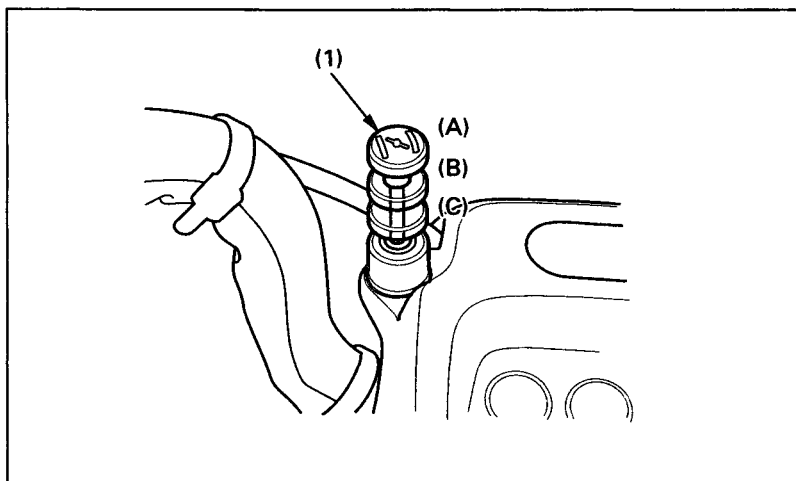

Fig. 2-6
The choke knob (Fig.2-6) is located above the indicator lamp. The choke has three positions: fully ON (A), halfway position (B), and fully OFF (C).